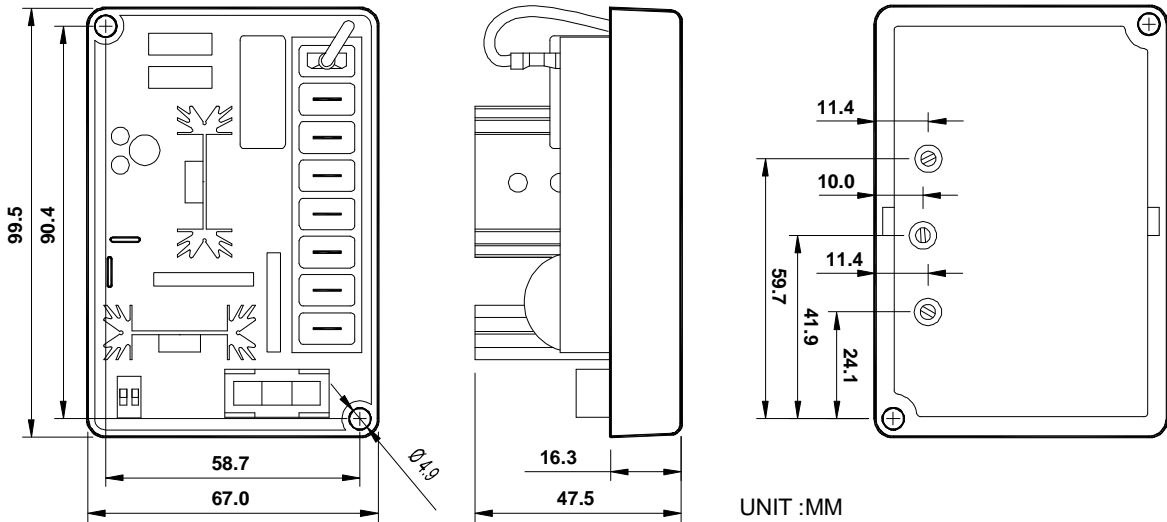

Figure 1 Outline and Drilling Diagram
FREQUENCY COMPENATION (See Figure 1)
1. The frequency compensation characteristic of Figure 1 used to improve system load pickup performance by restraining voltage recovery until frequency has also started to recover.